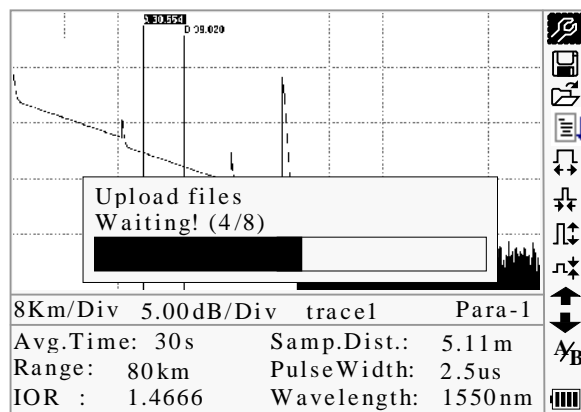

Figure 4-7. Upload Saved Traces
- Power on OTDR, and upload data with the software. The whole process is as in Figure 4-7.